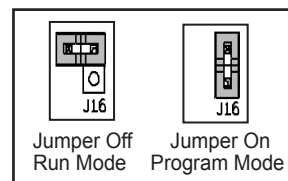

Fig. 11: J16 Program Jumper
1. Remove cover and install the shunt jumper across the J16 pins (Figs 11 & 12).